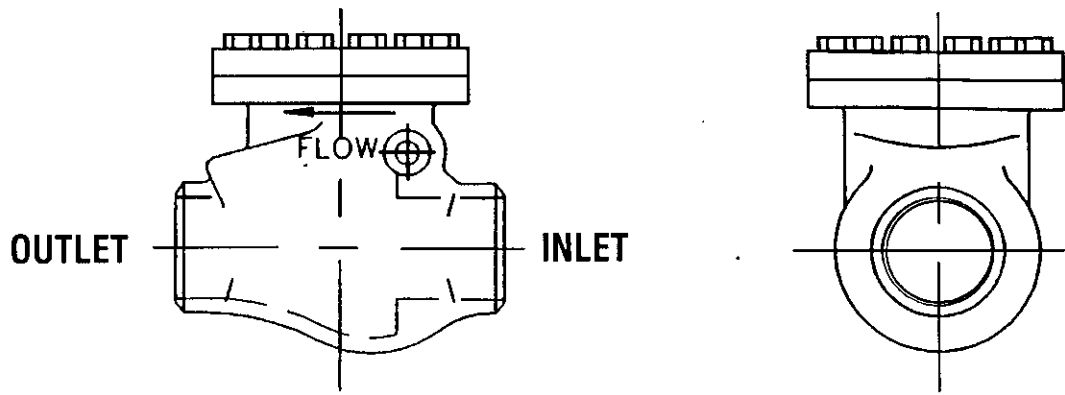

FIG. 1 STANDARD VALVE
1. Be sure valve is positioned with flow arrow pointing in the direction of flow (Fig.1).